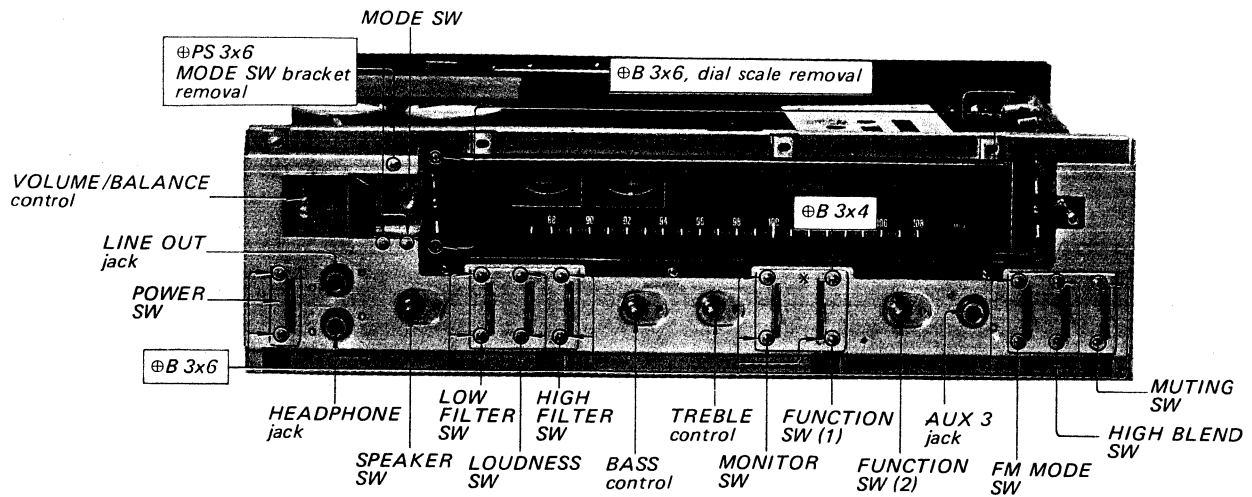

Fig. 2-5 Control and switch replacement
5. Referring to Fig. 2-5, remove the controls or bracket as given in the list below.
2. Remove the two screws ( $\text{#B } 3 \times 6$ ) securing the dial-scale holder to the front subchassis as shown in Fig. 2-5.
1. Remove the two screws ( $\text{#B } 3 \times 6$ ) securing switches to the front subchassis as shown in Fig. 2-5. Note that the upper screw of FUNCTION switch (1) is ( $\text{#B } 3 \times 4$ ).
1. Remove the hex nuts that secure the switches or controls to the front subchassis as shown in Fig. 2-5.